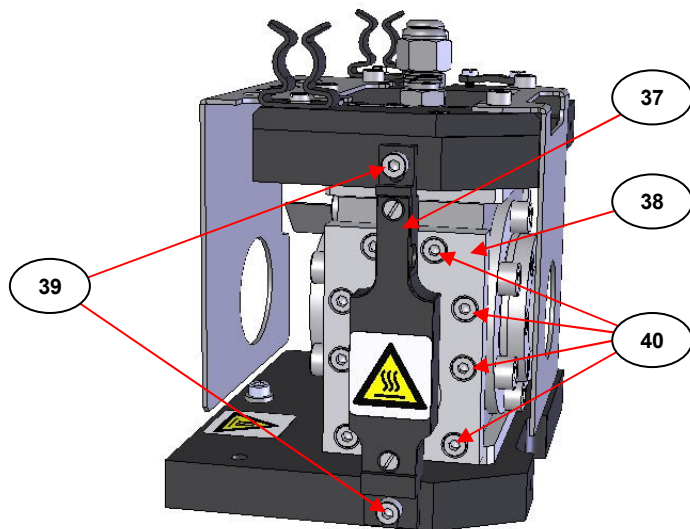

Fig 20A. HTHP Cell Heater Block Assembly (10) in Position on HTHP Cell Body (3) for Decomposition Mode of Operation
To remove the heater block assembly (10) from the HTHP Cell chamber cavity, the two wiring strap screws (39) are undone first and placed carefully to one side for re-use. (See Fig 20A.) (Do not mix these two screws (39) with the eight different screws (40) that are used for the end plate (38).) Now undo and remove the eight fixing screws (40) of the end plate (38). The wiring strap (37) will still be in position covering the end plate (38) as it is physically connected by the power cable connection, so it may require slight movement of the wiring strap (37) part to gain easier access to the top two screw (40) fixings for their removal.